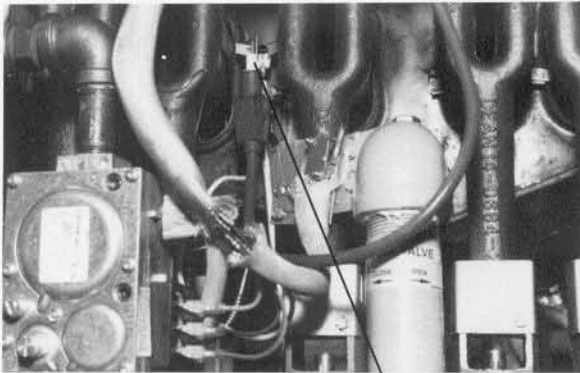

Figure 10
1. Remove high-voltage wire from ignitor (Fig. 10).
2. Remove flame sensor wire from ignitor (Fig. 10).
3. Remove gas line fitting and gas line from ignitor (Fig. 10).
4. Remove mounting screw and nut from ignitor bracket and lower ignitor (Fig. 10).